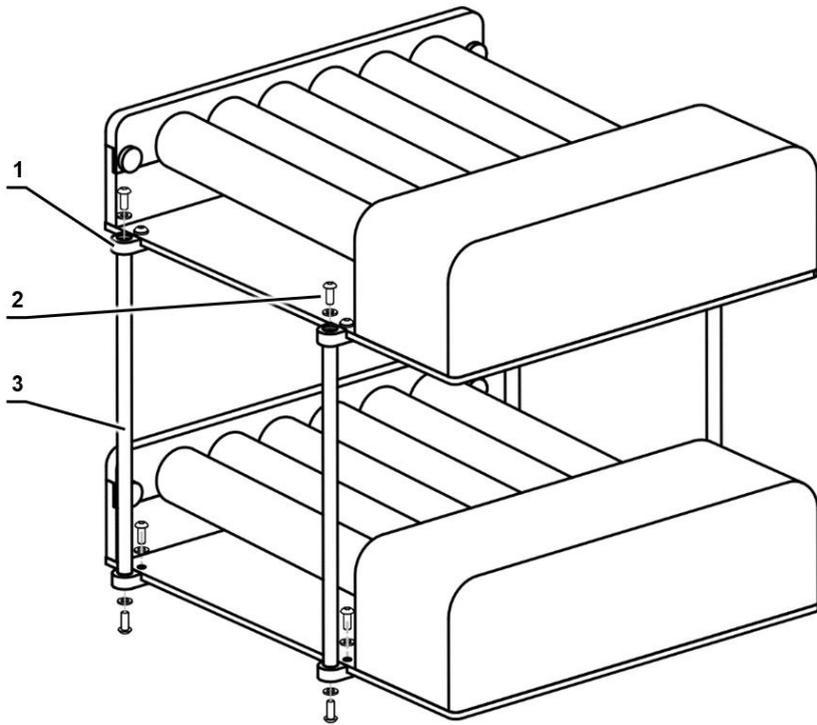

Figure 2. Stacking kit installation
### 4.4.4 Stacking two units (figure 2).
- Lock the bracket parts (fig. 2/1) with hex screws and washers (fig. 2/2) in 4 positions on the base plate of all stacking units.
- Insert the connecting rod (fig. 2/3) on the bottom bracket and secure it tightly with a hex screw and a washer. Repeat for other connecting rods.
- Lock the bracket parts (fig. 2/1) with hex screws and washers (fig. 2/2) in 6 positions on the base plate of all stacking units.